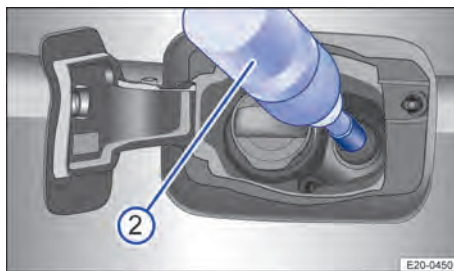

Fig. 166 Refilling AdBlue with a refill bottle.
2. Place the refill bottle on the AdBlue® filler neck and screw the refill bottle hand-tight → Fig. 166.
4. Press the refill bottle in the direction of the tank filler neck and hold the refill bottle in this position → Fig. 166 ②.
6. The AdBlue® tank is full as soon as no more AdBlue® flows out of the refill bottle → ①.